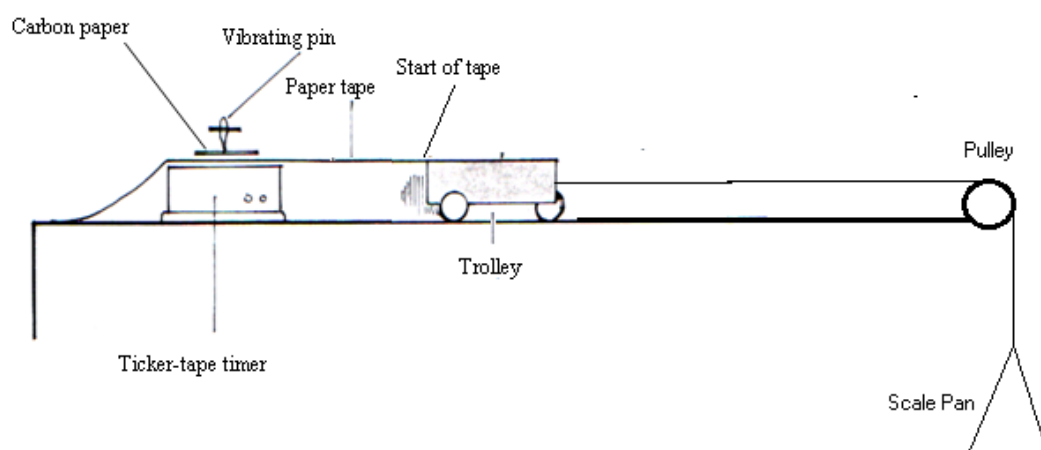

Figure 4.18: Linear Acceleration practical setup
2. Tie a strip of paper tape from the ticker timer to one end of the trolley and a piece of string to the other end of the trolley as shown in Figure 4.18.